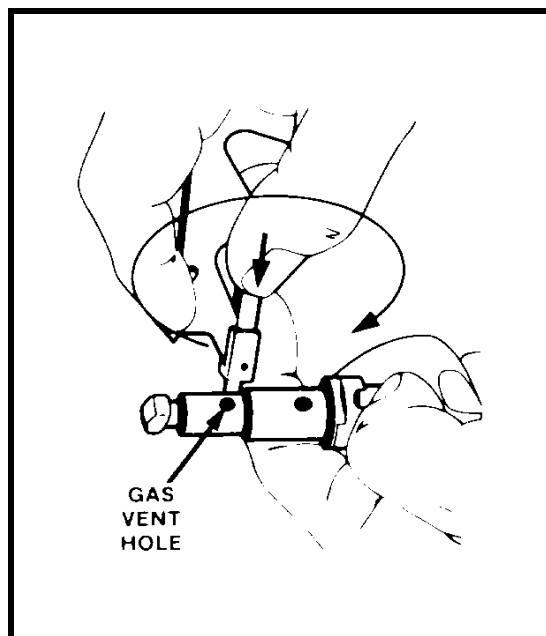
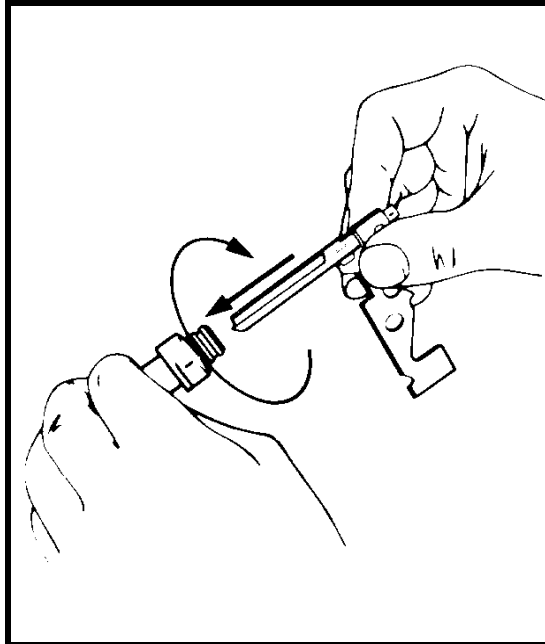
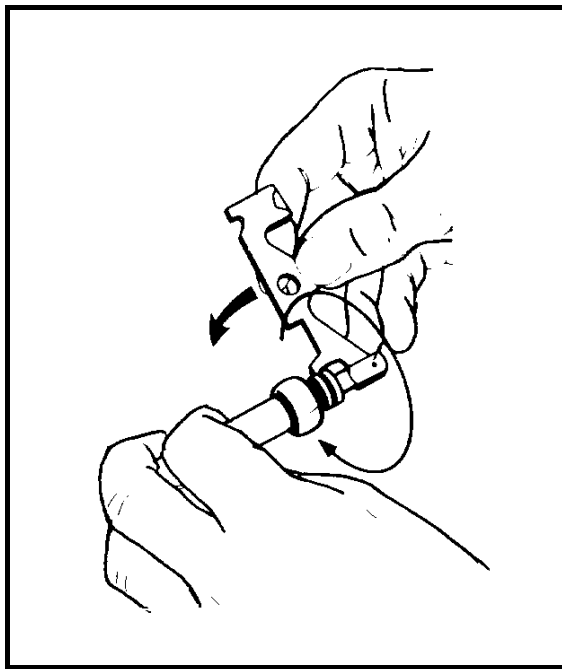

Figure 2-39 Regulator Gas Vent Holes
Figure 2-40 Regulator Central Hole
Figure 2-41 Regulator Grooves
- (1) To clean the gas regulator, use the special tool carried in the handguard.
- (2) Clean the gas escape holes (Figure 2-39), central hole (Figure 2-40), and grooves (Figure 2-41). The regulator body can be heavily fouled and will require thorough cleaning.